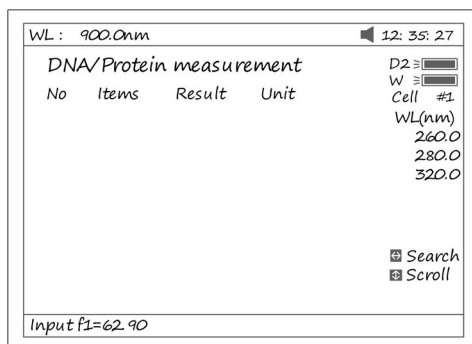

Fig 61
1. To use a simpler or different algorithm, you can enter your own values for f1-f4. Press [F1] to set f1-f4. Input the value by pressing the numeric keypad (Fig 61).